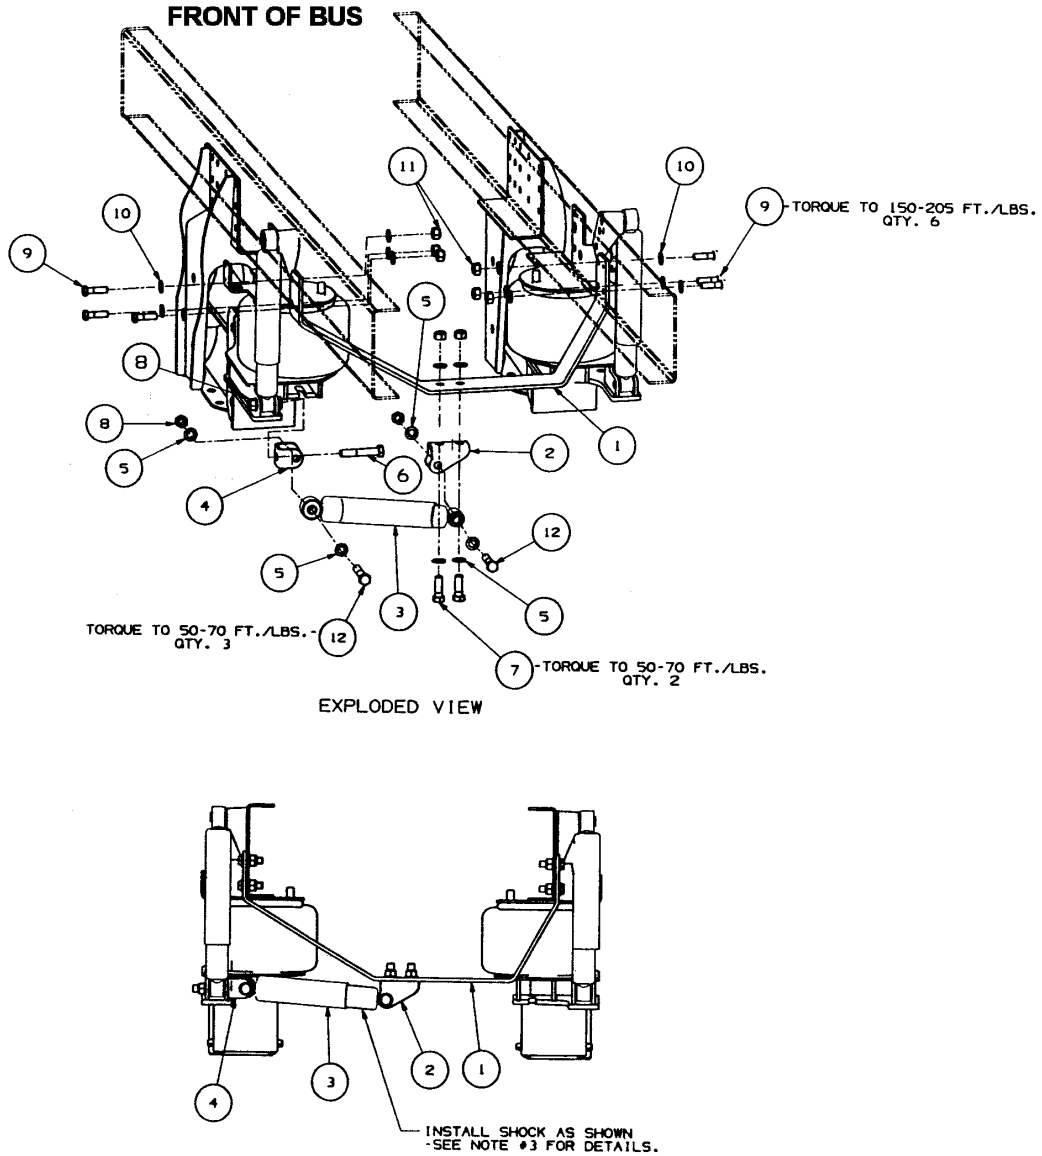
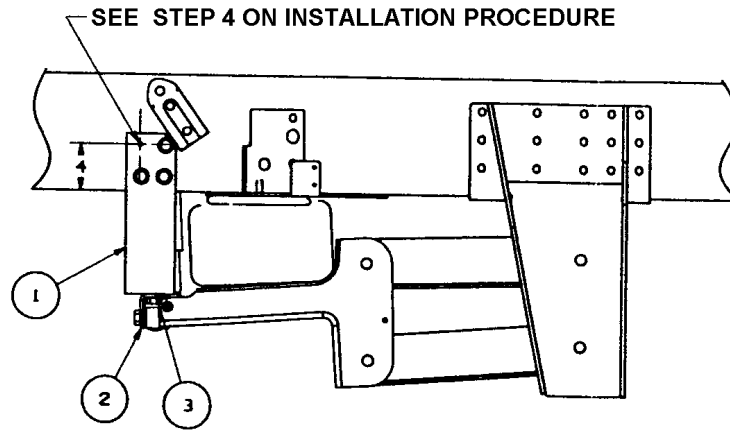

Figure 1
Figure 2
5. Position the crossmember (item 1) on the bus behind the front suspension air springs. See Figure 1. Use the upper front hole of the ABS valve at each side of the rail to position the crossmember on the frame rails. See Figure 2.
6. Once the crossmember is placed and leveled on the bus, mark the six (6) holes of the crossmember in the frame rails. See Figure 2.
7. Drill six (6) .625 holes at the marks you made on the frame rails. See Figure 2.
8. Install the cross member to the frame rails with six (6) 5/8" x 2 1/4 in bolts (item 9), twelve (12) 5/8" hardened washers (item 10) and six (6) 5/8" locknuts (item 11). See Figure 1. Torque fasteners to 150-205 ft. lbs.
9. Attach the lower bushing of the left shock absorber together with the axle seat shock bracket (item 4) to the axle seat with 3/4" x 4 1/4" hex bolt (item 6), 3/4" hardened washer (item 5) and 3/4" locknut (item 8). Torque fasteners to 50-70 ft. lbs.
10. Re-attach lower bushing of right shock absorber with 3/4" x 4 1/4" hex bolt (item 6), 3/4" hardened washer (item 5) and 3/4" locknut (item 8). Torque fasteners to 50-70 ft. lbs.
11. Attach the crossmember shock bracket (item 2) to the crossmember with two (2) 3/4" x 2 1/4" bolts (item 7), four (4) 3/4" hardened washers (item 5) and two (2) 3/4" locknuts (item 8). Torque fasteners to 50-70 ft. lbs.
12. Assemble the stabilizer shock absorber (item 3) to the two brackets (items 2 and 4) using 3/4" x 3 3/4" hex bolt (item 12) 3/4" hardened washer (item 5) and 3/4" locknut (item 8). See note 3 on page 2 for shock installation. Torque fasteners to 50-70 ft. lbs.
3. Position stabilizer shock (item 3) with large end toward outside of bus as shown in illustration at bottom of Figure 1.